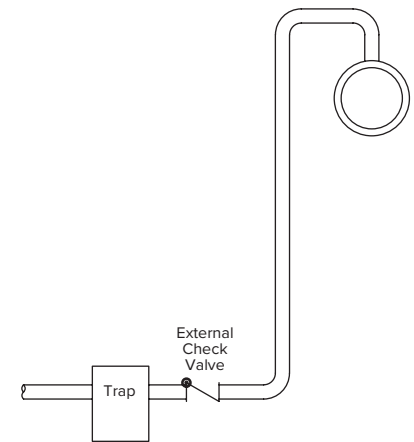

Figure CG-26. When trap valve opens, steam pressure will elevate condensate. Every 2' of lift reduces pressure differential by 1 psi.
3. Elevating condensate. Every 2' of lift increases the discharge pressure (and the differential) by one psi when the discharge is only condensate. However, with flash present, the extra back pressure could be reduced to zero. See Fig. CG-26, noting the external check valve.